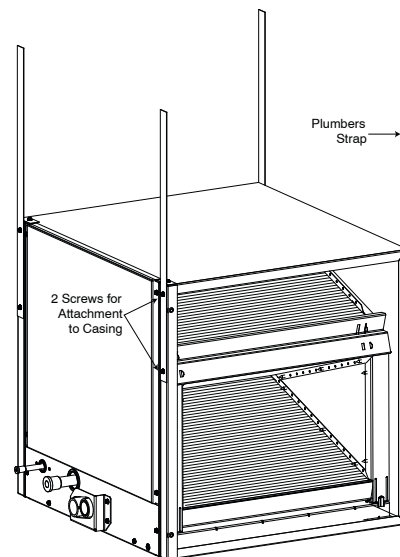

Fig. 7 - Suspension with Plumbers Strap
2. Attach metal plumbers strap to four corners of coil casing (see Fig. 7).
2. Attach metal plumbers strap to four corners of coil casing. See Fig. 7.